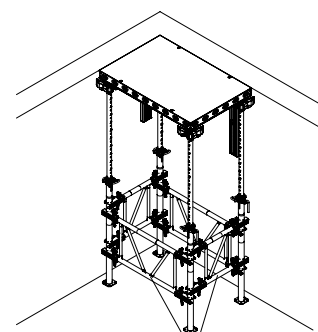

Fig. D2.05a
Alternatively, the starting bay can be set up with the PEP PRK frame (45) 75 and 120 instead of the tripods. Observe the Instructions for Assembly and Use for PEP Ergo slab props! (Fig. D2.05a)